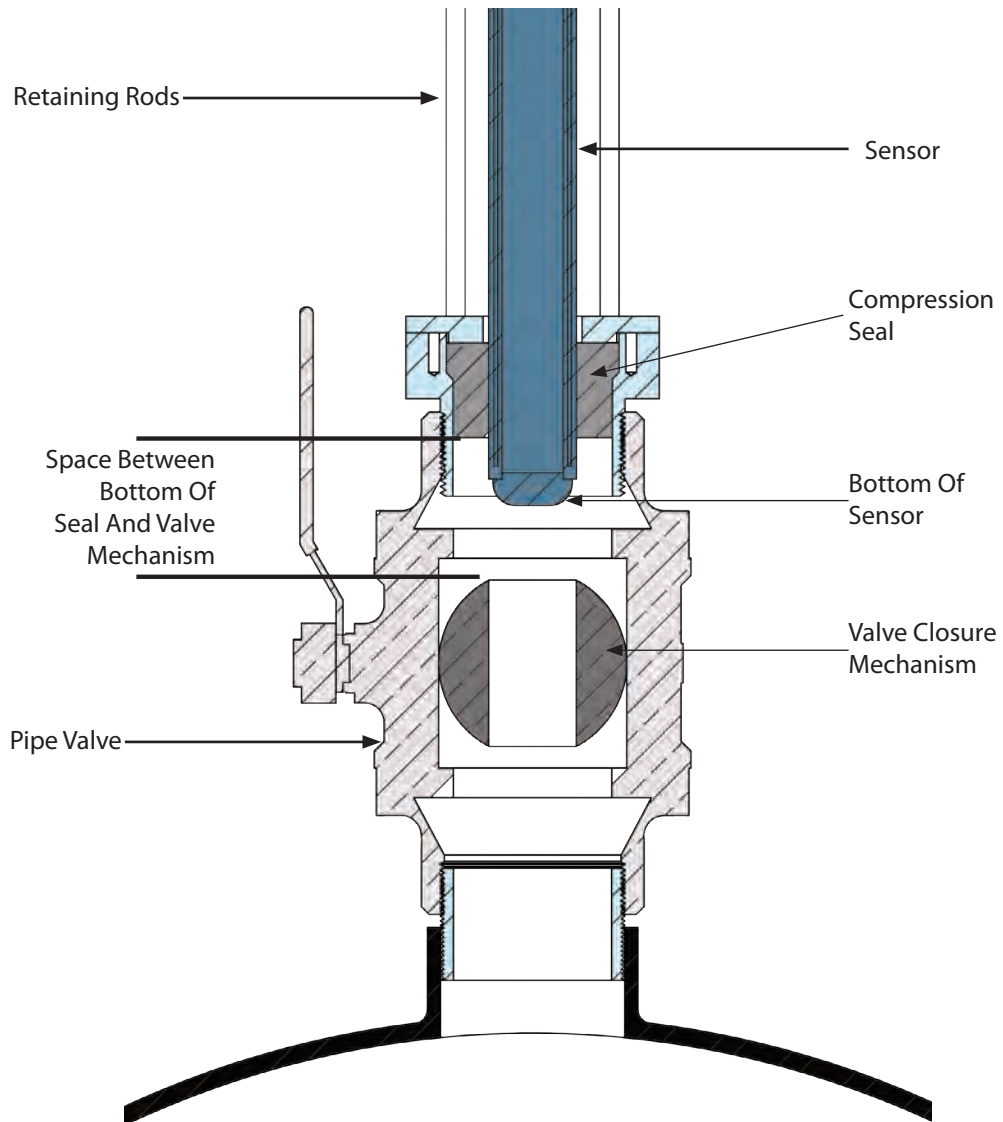

Figure 19: Cross-Section Of Meter Showing Sensor Removal
10. Rotate the captive nuts on the top plate simultaneously. The *sensor* insertion tool is recommended. See *Installation, STEP 12*. This will cause the *sensor* to rise out of the pipe. If the line is under pressure do not remove the *sensor* from the compression seal completely. Only raise the *sensor* until it is clear of the valve, but still below the compression seal. See *Figure 19*. Once the *sensor* has cleared the valve mechanism, the valve can then be closed. Do not attempt to force the valve closed while the *sensor* is still passing through the valve as permanent damage to the *sensor* can occur.